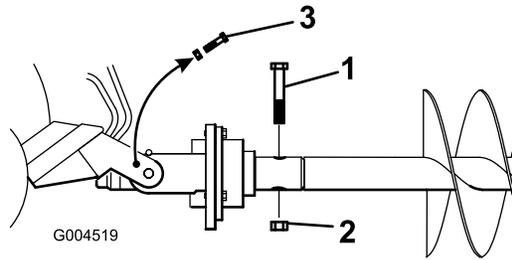

Figure 8
9. Secure the auger to the drive head with a bolt (7/8 x 4-1/2 inch) and nut (7/8 inch) (Figure 8).
10. Remove the bolts and nuts from the cradle arms that were installed in steps Figure 1 (if applicable) and Figure 8.